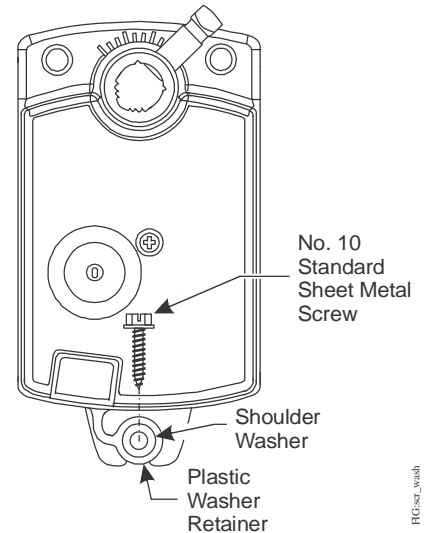

Figure 6: Inserting the Screw into the Shoulder Washer
- Hold the actuator in place on the damper shaft, and insert the No. 10 standard sheet metal screw through the shoulder washer, as illustrated in Figure 6.